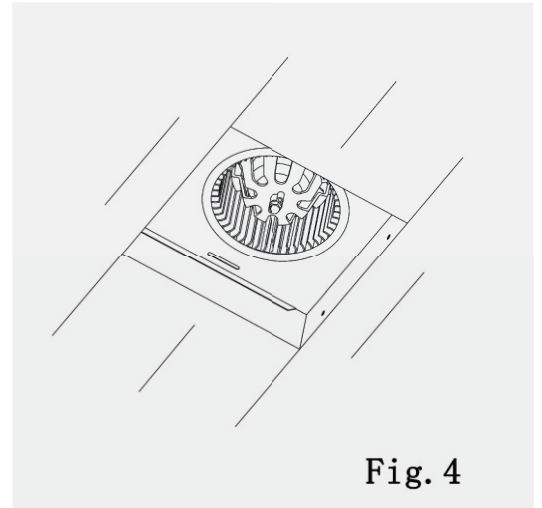

Fig. 4
5. Finish ceiling work. Ceiling hole should be aligned with the edge of the flange.(Fig.4)